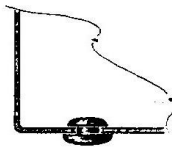

Fig. 18
6) Insert the rubber feet in the openings provided in the bottom of the cabinet as shown. The method is to work the rounded portion of each foot into the interior of the cabinet from the outside, using a small screw driver. The flat portion should be the actual resting or contact surface. See insert drawing of Fig. 18.